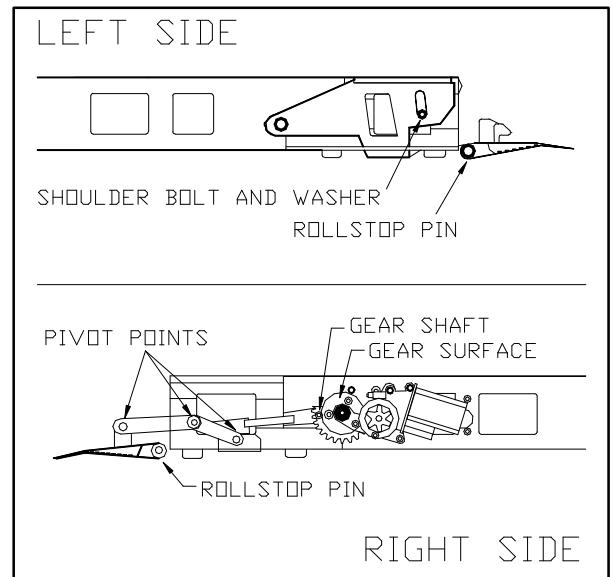

FIGURE 4-6: ROLLSTOP LUBRICATION POINTS
6. Refer to **Figure 4-6**. Lubricate the pivot points of the rollstop mechanism on both sides of the platform using light grease (Curtisol Red Grease No.88167). Wipe away excess grease.